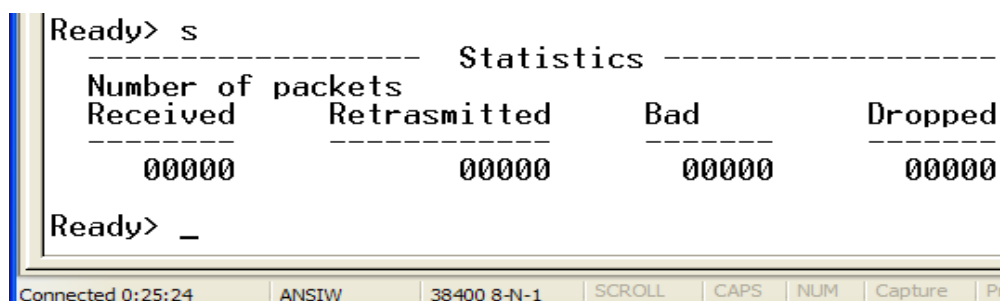

Figure 8-8. Repeater Statistics
- Type “s” to show repeater statistics as shown in Figure 8-8.